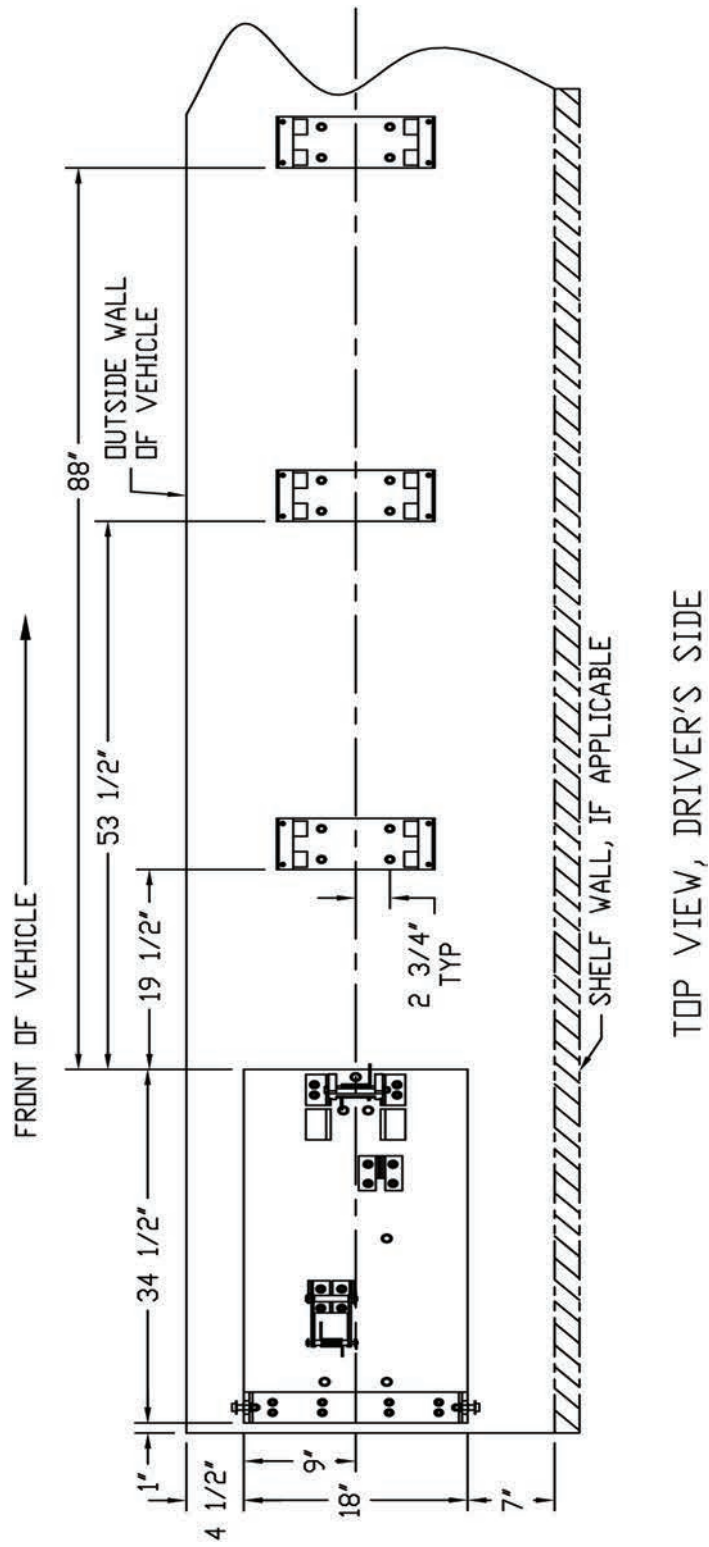

Figure 2A Dimensions - Top View, Driver's Side
1. With assistance, lift the Combined Base Assembly (1 & 2) and attached Ladder Rack (5) onto the apparatus shelf.
2. Position the Combined Base Assembly, leaving a minimum of 7" between the Bottom Base Plate (2) and adjacent shelf side wall and 1" between the Bottom Base Plate and the rear lip of the shelf (see Figures 2A & 2B).
1. Position the three Rack Guide-Roller Assemblies (4) on the apparatus shelf (see Figures 2A & 2B). Shim the Rack Guides as necessary until all three are level and aligned with the Ladder Rack (5).